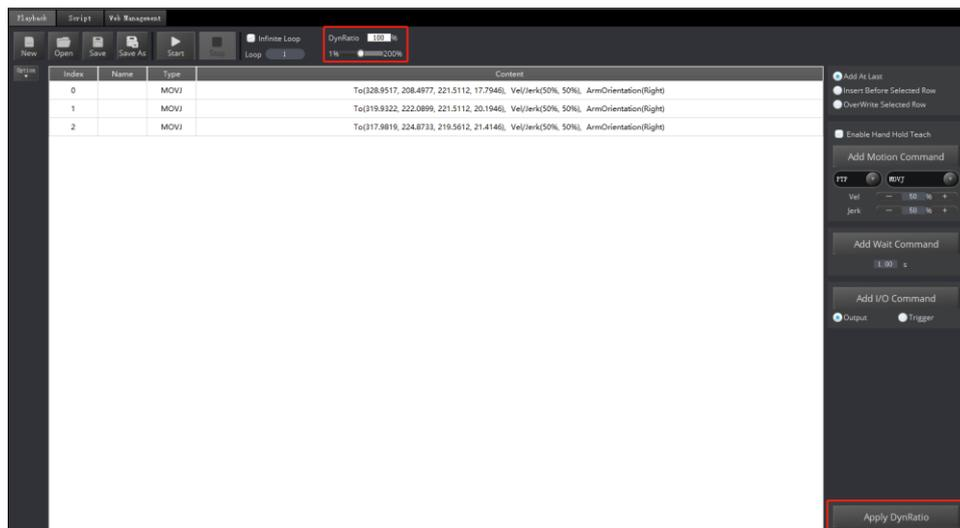

Figure 6.13 Modify the speed of all saved points at the same time
- If modifying the speed of all saved points at the same time is necessary, you can drag DynRatio to modify, as shown in Figure 6.13